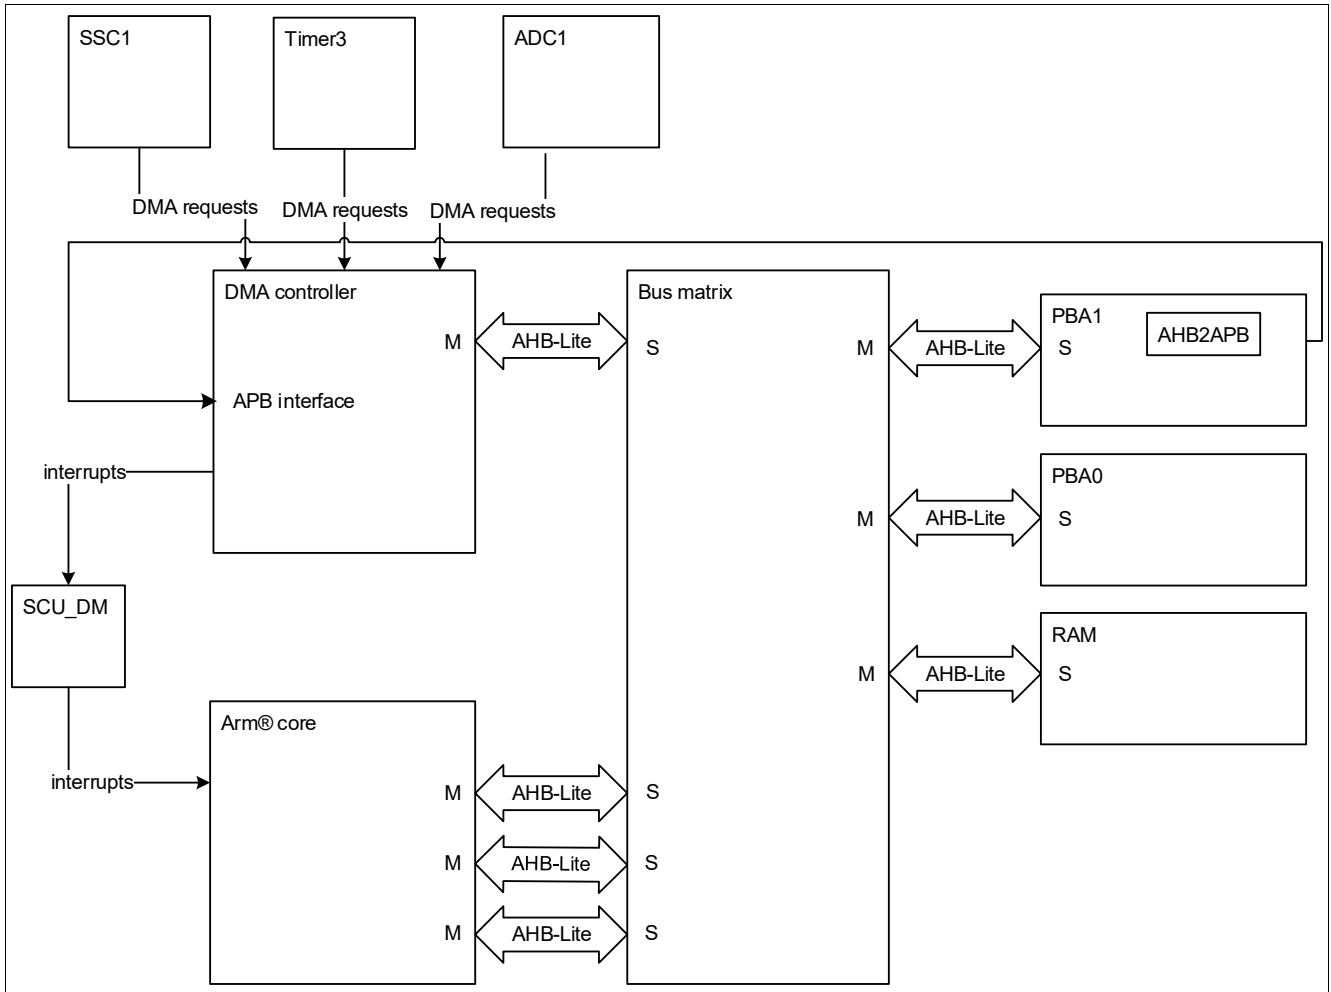

Figure 12 DMA controller top level block diagram
**Figure 12** shows the top level block diagram of the TLE9877QXA40.